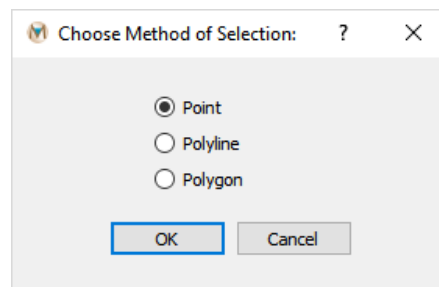

Figure 6.1. The “Choose Method of Selection” dialog box
- Add a point, polyline, or polygon file to the View Pane using the “BLN,” “ESRI Shape File,” or “Point Data” plot items. The file that will be used as an overlay must be added to the View Pane (see Section 3.4.1.8) before the “Select with Overlay” tool is clicked. If multiple overlays are added to the View Pane, only the topmost listed in the “Plot Items” pane will be used to select. To use the overlay below the topmost overlay, the latter should be deactivated. Click the “Select” tool and then click the “Select with Overlay” tool. When the “Select with Overlay” tool is activated, the dialog box shown in Figure 6.1 appears. To deselect a selected element, right-click on that element or right-click and drag a rectangle around multiple selected elements. Press the [ESC] key to deselect all selected elements.
- Add a point, polyline, or polygon file to the View Pane using the “BLN,” “ESRI Shape File,” or “Point Data” plot items. Click the “Select” tool and then click the “Select with Overlay” tool. When the “Select with Overlay” tool is activated, the “Choose Method of Selection:” dialog box appears (Figure 6.1). The file that will be used as an overlay must be added to the View Pane before the “Select with Overlay” tool is clicked. If multiple overlays are added to the View Pane, only the topmost listed in the “Plot Items” pane will be used to select. To use the overlay below the topmost overlay, the latter should be deactivated. To deselect a selected node, right-click on that node or right-click and drag a rectangle around multiple selected nodes. Press the [ESC] key to deselect all selected nodes.